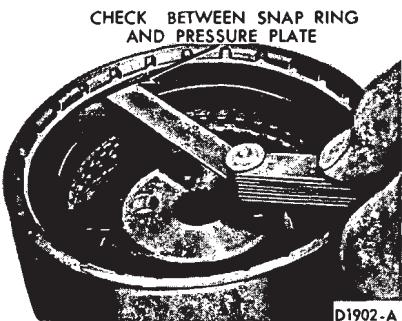

FIG. 85—Checking Forward Clutch Snap Ring Clearance
5. With a feeler gauge, check the clearance between the snap ring and the pressure plate (Fig. 85). Downward pressure on the plate should be used when making this check. The clearance should be 0.025-0.050 inch.